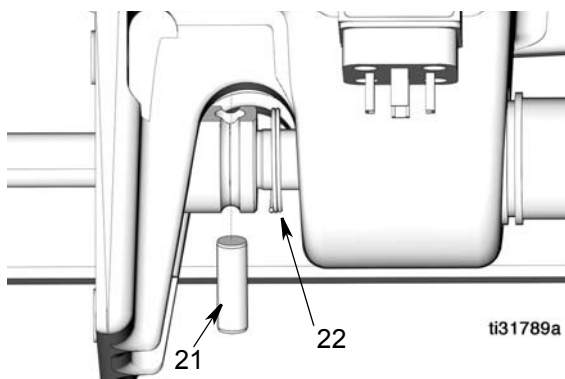

FIG. 14
4. Slide the retaining spring (22) off of the pin (21) and remove pin (FIG. 14).